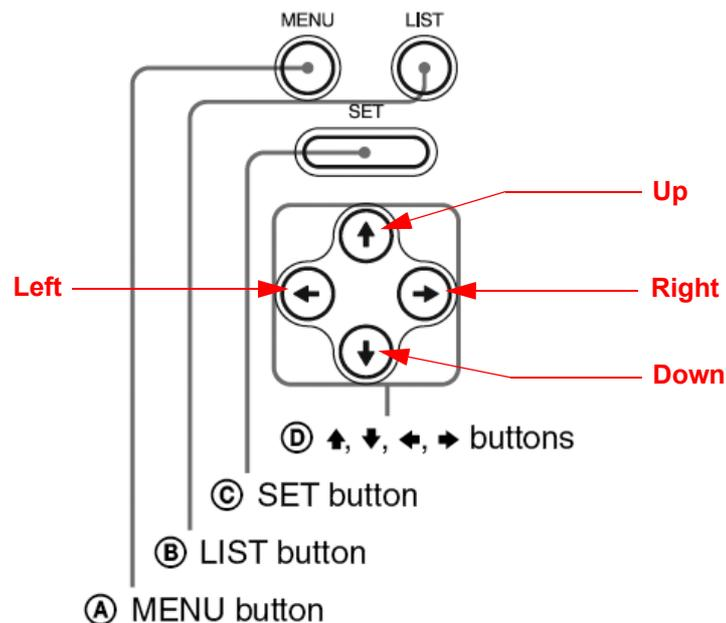

Figure 3-79 Keys on the front of the recorder
- 2.) Press the **MENU** button (A) located on the front of the DVD recorder, see Figure 3-79 below.
- 2.) Press the **MENU** button (A) located on the front of the recorder, see Figure 3-79 on page 3-65.